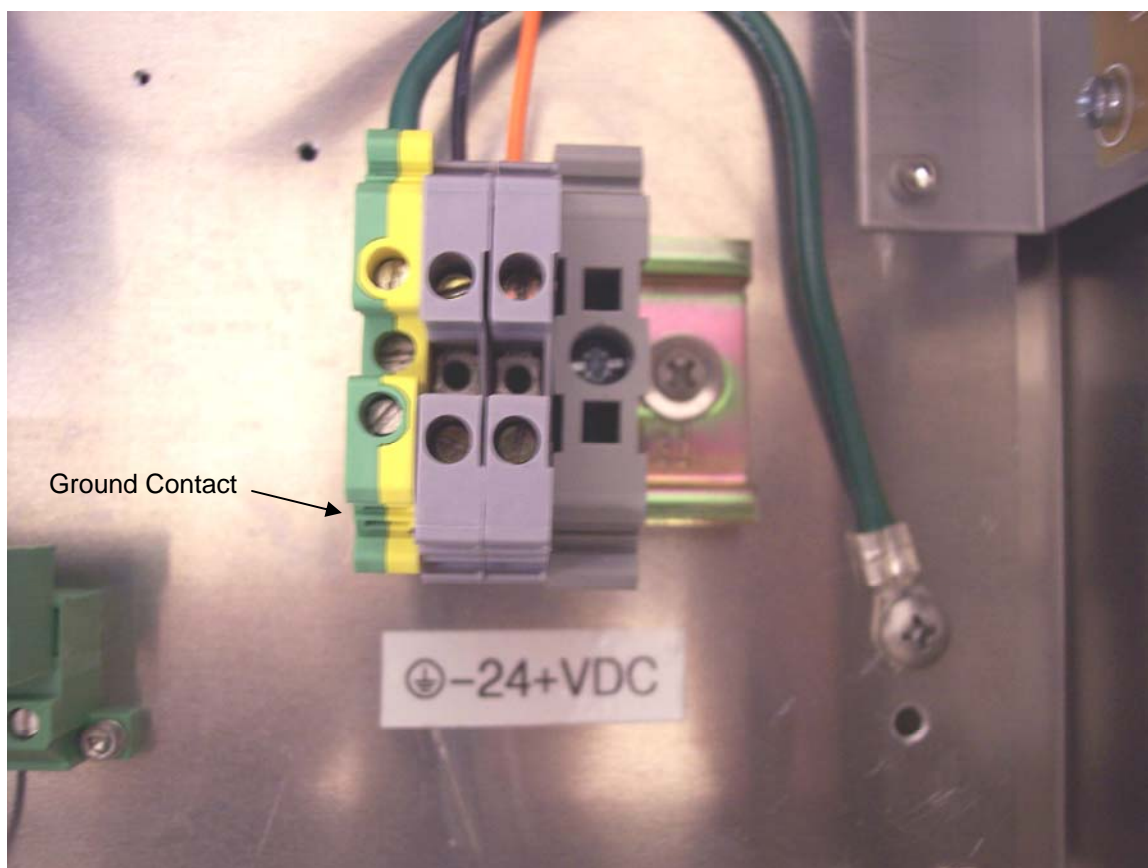

Figure 10: Connect the ground wire to the ground contact in the lower right corner of the enclosure.
6. Connect the ground wire to the ground contact in the lower right corner of the enclosure (see **Figure 10** on page 22).